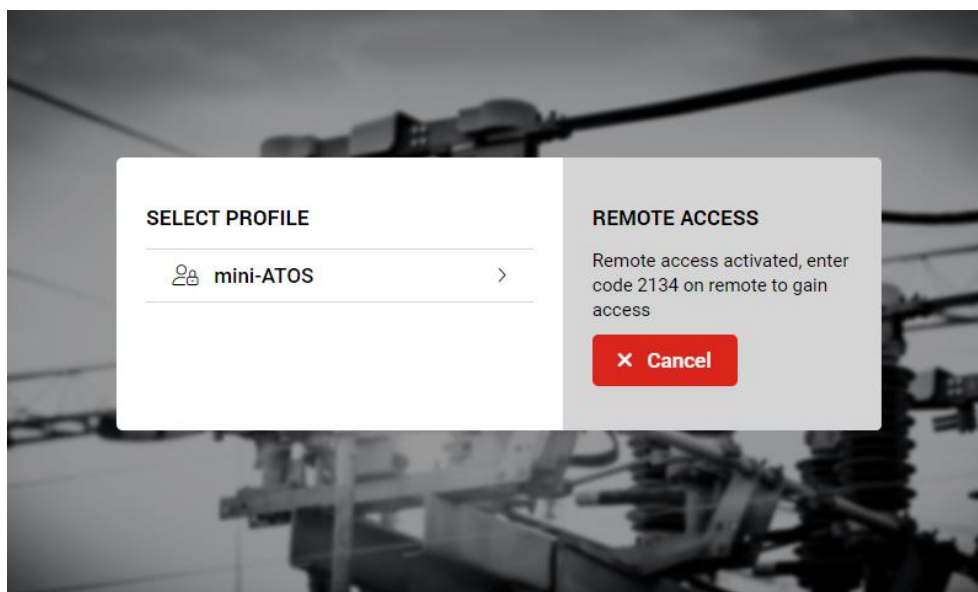

Figure 82: Remote access activated with an auto-generated key on the mini-ATOS display
- 4- Activate remote access on the select profile page. If you didn't input the access key manually in the settings, you will see then the auto-generated access key (Figure 82)